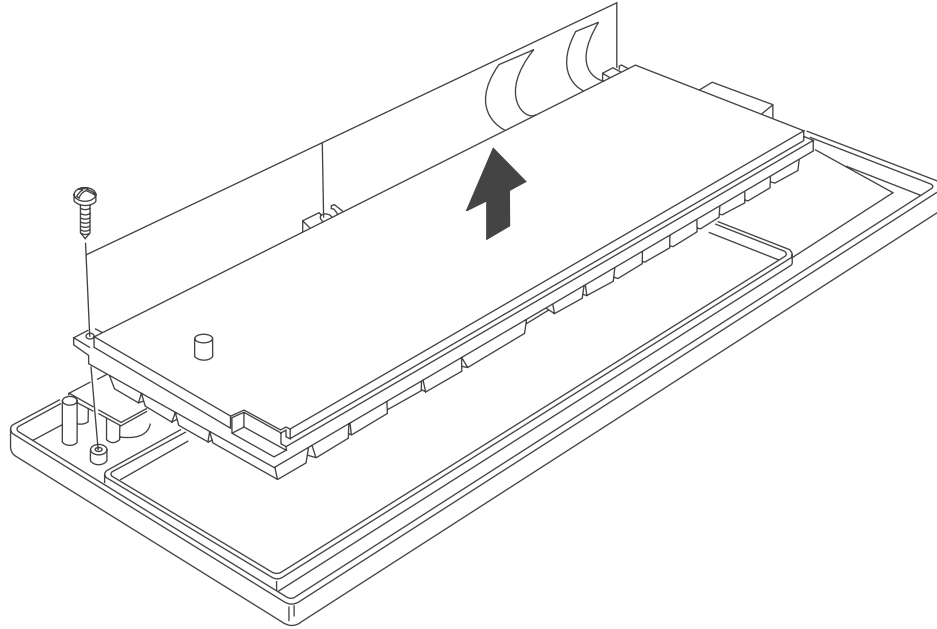

Figure 58. USB keyboard-V components – part 6
2. Remove the three screws as shown in Figure 58 on page 59.